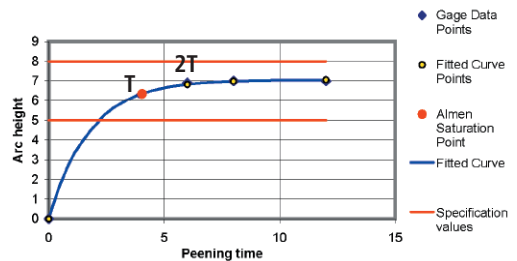

Figure 2. The Curve Solver tabulates the saturation curve. It's free from [www.shotpeener.com](http://www.shotpeener.com).
Verification of the requested intensity requires the establishment of an intensity saturation curve (graphical plot of arc height versus peening time or other time-based parameter). The saturation curve is plotted with a minimum of four Almen strip arc height readings that were peened with fixed machine settings. Plotting arc heights manually is laborious and often inaccurate. Fortunately, it's also outdated. Illustrated in Figure 2 is the Curve Solver program developed by Dr. David Kirk. Enter the arc height readings from an Almen gage for at least four peened Almen strips into the program and it will compute the saturation point intensity. Figure 2 shows that doubling of the time (2T) from the initial peening time (T) resulted in less than a 10% increase in Almen arc height. This is called the "10% rule" and it means that the process reaches saturation at "T." Saturation establishes the actual intensity of the shot
By far, the concepts of saturation time and coverage cause the most confusion for new and experienced shot peening personnel. First, a definition of coverage: Coverage is the measure of the original surface area that has been obliterated by shot peening dents. If the goal is "100% coverage", the length of machine cycle time to achieve 100% coverage will differ based on the hardness of the material to be peened. Looking at Figure 2, it's easy to see why people get confused about the proper machine cycle time. According to this chart, the saturation point for the arc height (intensity) was achieved at around 4.8 minutes of **peening time**. Do not dwell on this number. Peening time is not the machine cycle time, it's only a graphical tool to establish intensity. Do NOT use it for determining machine cycle time for full coverage.